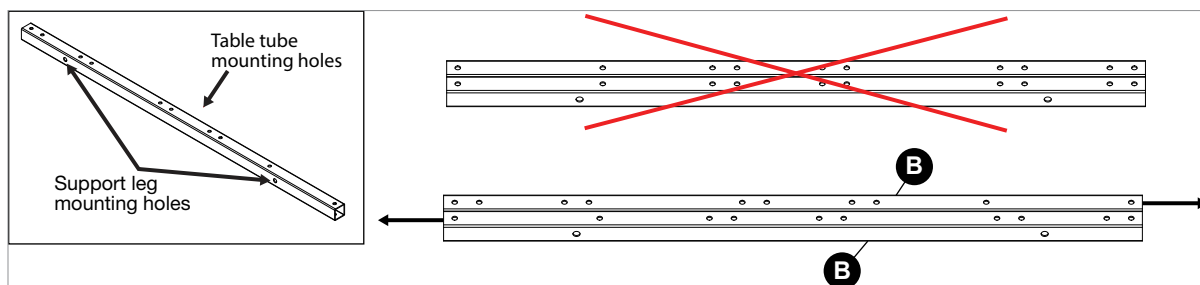

Fig. 18
FOR CNS SAWS ONLY: Place the four table support tubes (B) on the floor behind your table saw and align them as shown in Figure 18. In order to align the table support tubes, place two tubes next to each other, with the ten table mounting holes on the top and bottom and the 2 support leg mounting holes on the sides.